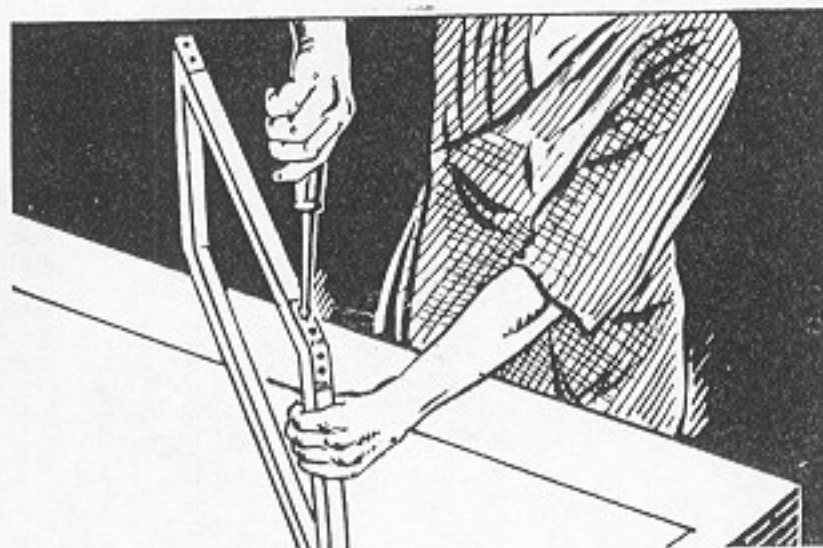
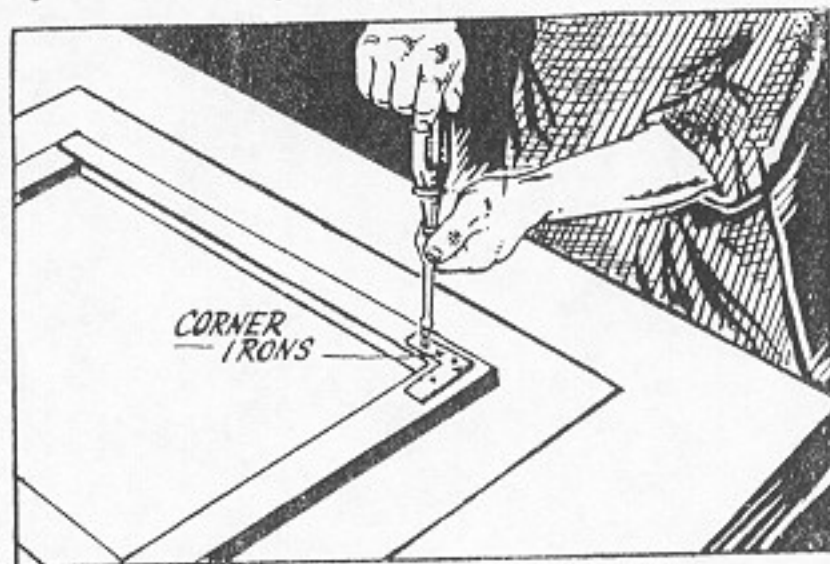

Fig. 26. Use of Angle Irons on Corners
Fig. 27. Use of Corner Irons
3. Use angle irons to make the frame rigid. Place them on the outside of the corners and fasten with screws, Fig. 26. If preferred, corner irons may be used as shown in Fig. 27.